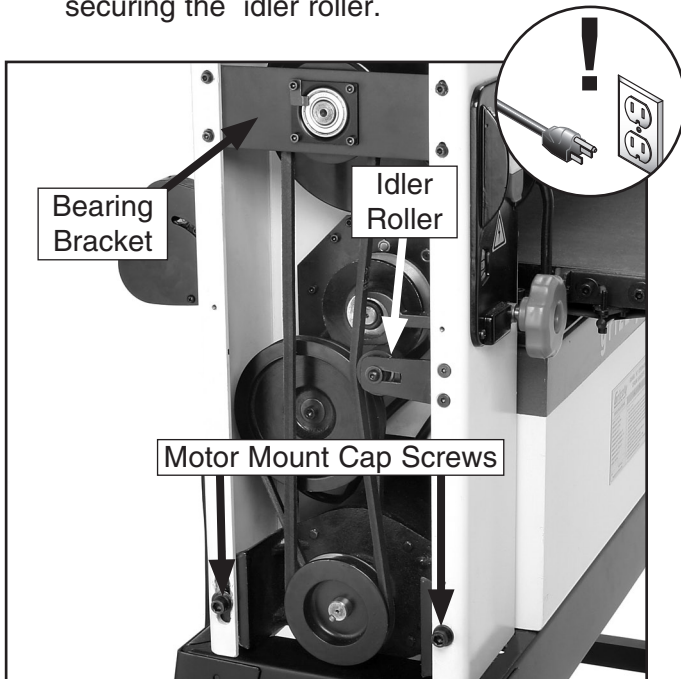

Figure 35. Belt drive system.
3. Loosen the motor mount cap screws shown in **Figure 35** and loosen the cap screw securing the idler roller.